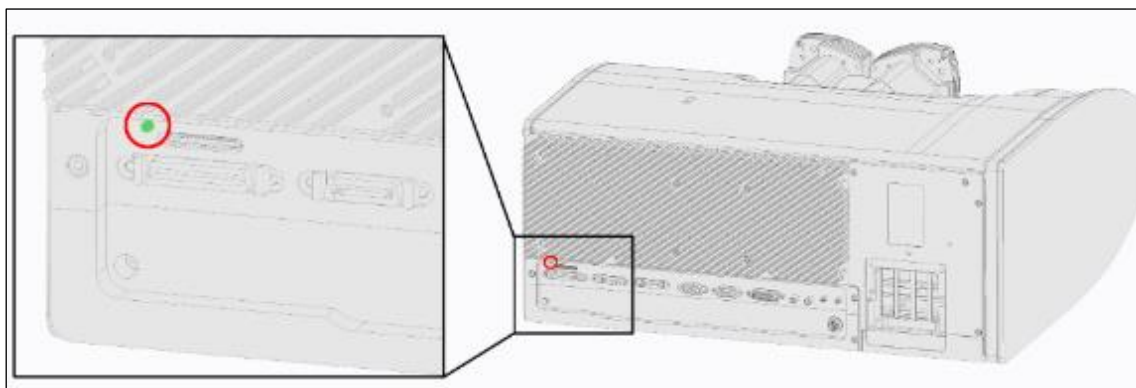

Figure 51: Readiness indicator on the scan head
11. Wait before starting the LAS X software. The display on the scan head (refer to Figure 51) must light up in green before you start the LAS X software.
12. As soon as the display on the scan head is illuminated in green (see Figure 51), all components are ready to use. Double-click the LAS X icon on the desktop to start the LAS X software. For additional information about the LAS X software and the online help, refer to the chapter 14.